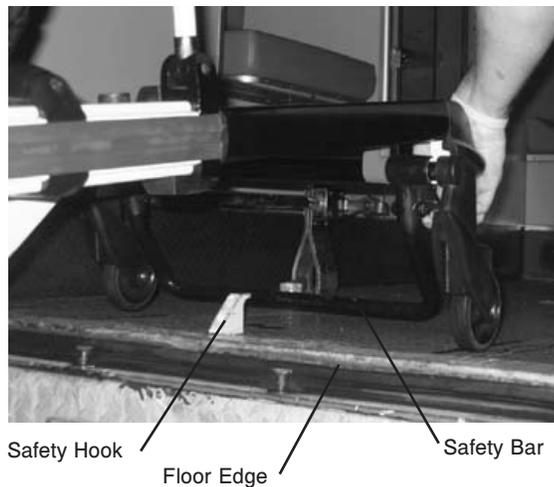

Figure 13 - Safety Bar Engaging Safety Hook
7. Fasten the safety hook to the patient compartment floor and verify that the safety hook always engages the cot safety bar when the cot is unloaded from the vehicle (Figure 13).